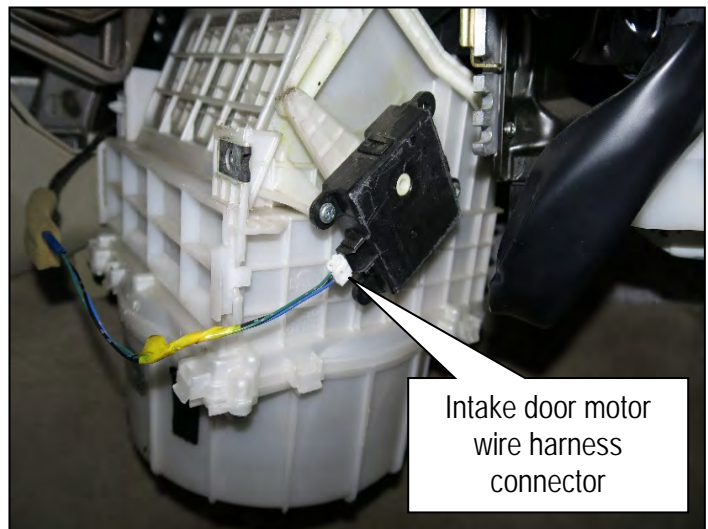

Figure 14
19. Disconnect the intake door motor wire harness connector, and then remove the blower case from the vehicle (Figure 14).